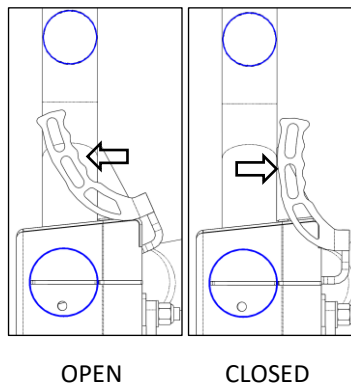

Figure 3: Latch Handle Operation (Your Latch may not exactly as shown)
3. Make sure handles are at open position shown in Figure 3 (pull handles toward you to open latches)
4. Once Grille in closed position, push handles to close latches (shown in Figure 3)